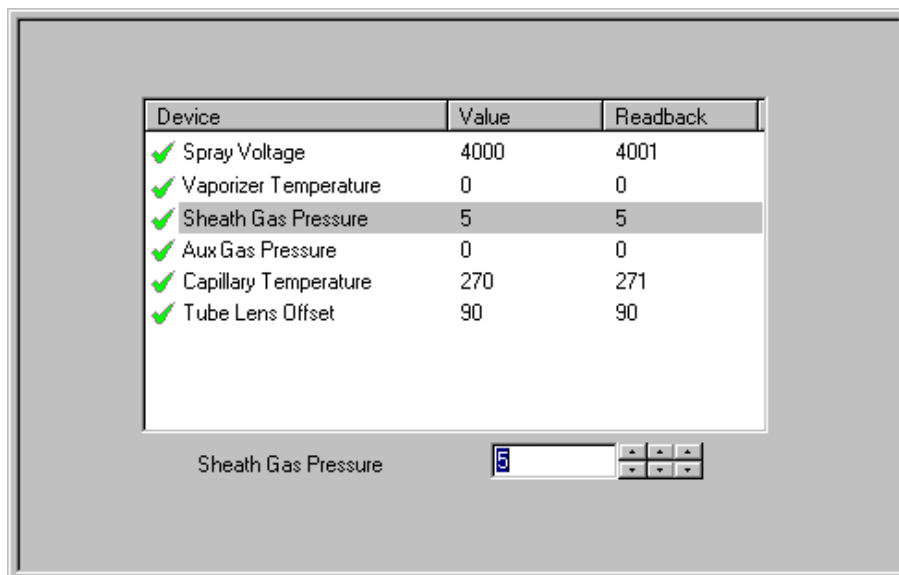

Figure 3-4. Optimize Compound Dependent Devices view
- i. In the Device Display box in the Optimize Compound Dependent Devices view, click on Sheath Gas Pressure. See Figure 3-4.